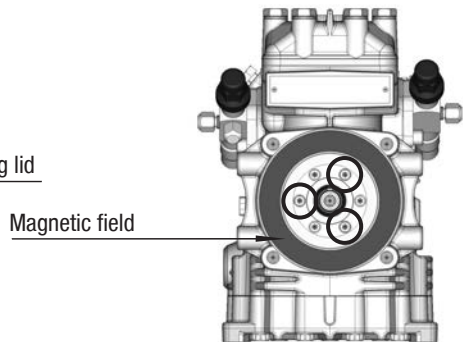

Fig. 11
- To connect the magnetic field, remove the marked Allen head screws of the sliding ring lid (see Fig. 11).
- Slide the magnetic field to a snug-fit and fasten using the three M5 x 18 cheese head screws provided (Fig. 11). Screw torque = 9 Nm.